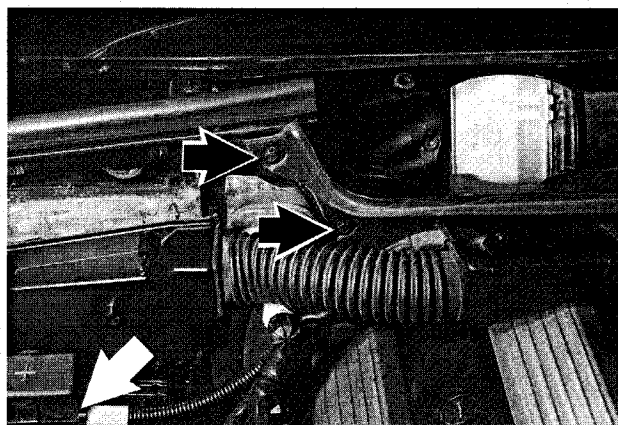

Fig. 14. Right side plenum retaining screws (black arrows). Note positive leads to main (+) connector (white arrow).
6. On passenger side of air plenum, push aside wiring harness and remove two screws retaining plenum housing. See Fig. 14.